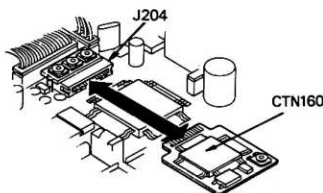

Figure 4-6
- b) Place the CTN160 on top of the microprocessor and slide it to the connector as shown in Figure 4-6. Then plug it firmly into the connector.